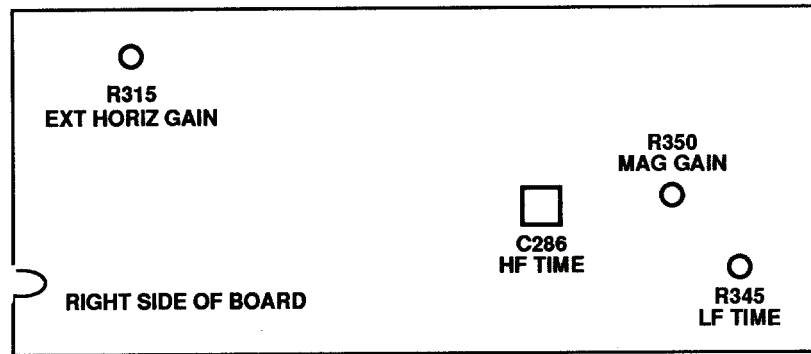

Figure 3. Test instrument - adjustment locations.
- (1) Connect oscilloscope calibrator **SOURCE/MEASURE CHAN 1** to **TI EXT HORIZ AMP**.
- (2) Set oscilloscope calibrator **VOLTAGE** output for 0.5 V, 1 kHz.
- (3) Adjust TI **POSITION** control to position dots to the extreme right and left vertical graticule lines.
- (4) Adjust dual trace amplifier **CH 1 POSITION** control to vertically center the dots.
- (5) Adjust oscilloscope calibrator **EDIT FIELD** knob for 10 divisions of horizontal deflection on oscilloscope. If oscilloscope calibrator **err** display does not indicate within $\pm 3\%$, perform **b** below.
b. Adjustments. Adjust oscilloscope calibrator **EDIT FIELD** knob for a 0.0% **err** display indication. Adjust R315 EXT HORIZ GAIN (fig. 3) for a 10 division horizontal deflection on oscilloscope (R).
(1) Release TI **SWP MAG** pushbutton (out), set **SECONDS/DIV** switch to **1 m** and oscilloscope calibrator **MARKER** output for 1 mS/D. If necessary, adjust oscilloscope calibrator **EDIT FIELD** knob for a 0.0% **err** display indication.
(2) Adjust TI **POSITION** control to align 1st time marker with 1st vertical graticule line (extreme left). Adjust R345 LF TIME (fig. 3) to align one time marker per division (R).
(3) Press TI **SWP MAG** pushbutton and adjust TI **POSITION** control to align 1st time marker with 1st vertical graticule line (extreme left). Adjust R350 MAG GAIN (fig. 3) to align one time marker per division (R).
(4) Release TI **SWP MAG** pushbutton (out), set **SECONDS/DIV** switch to **.5 μ** and set oscilloscope calibrator **MARKER** output for 0.5 μS/D.
(5) Adjust TI **POSITION** control to align 1st time marker with 1st vertical graticule line (extreme left). Adjust C286 HF TIME (fig. 3) to align one time marker per division (R).